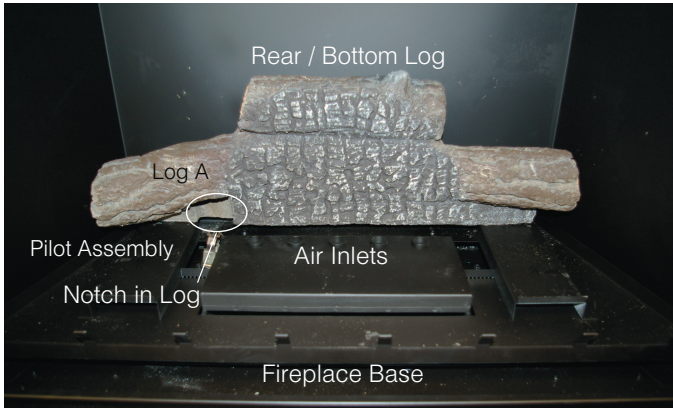

Figure 30a. Bottom Rear Log, (Log A).
Step 2. Place the bottom Rear log (Log A) as shown in figure 30a.